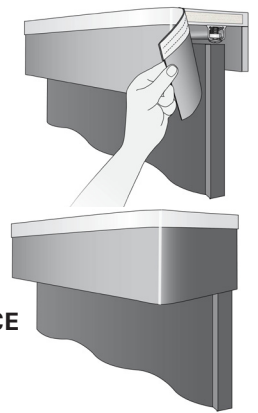

Figure 7
**5:** Attach the valance to the front of the valance board. [Figure 7]